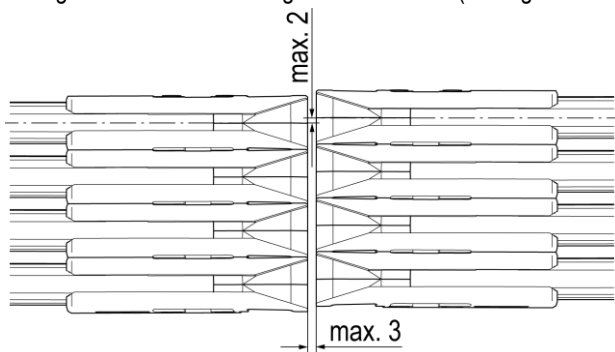
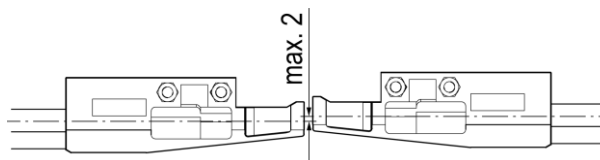

Fig. 100: Maximum deviation horizontal
Fig. 101: Maximum deviation vertical
- Distance of opposing end caps not larger than 3 mm (see Fig. 100)
- Height and lateral offset not greater than 2 mm (see Fig. 100 and Fig. 101)